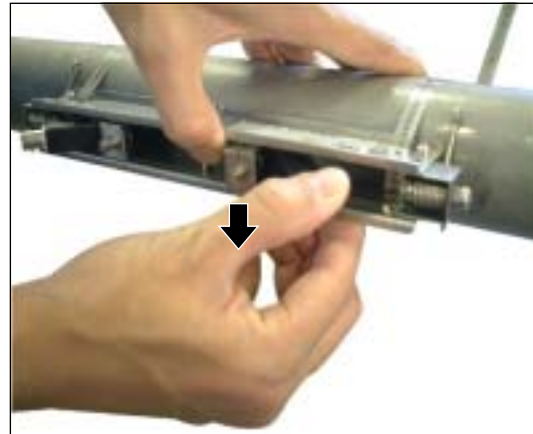

Fig. 3-21
- (3) Likewise, disengage the opposite claws of the sensor unit pressing fixture from the frame (Fig. 3-21).